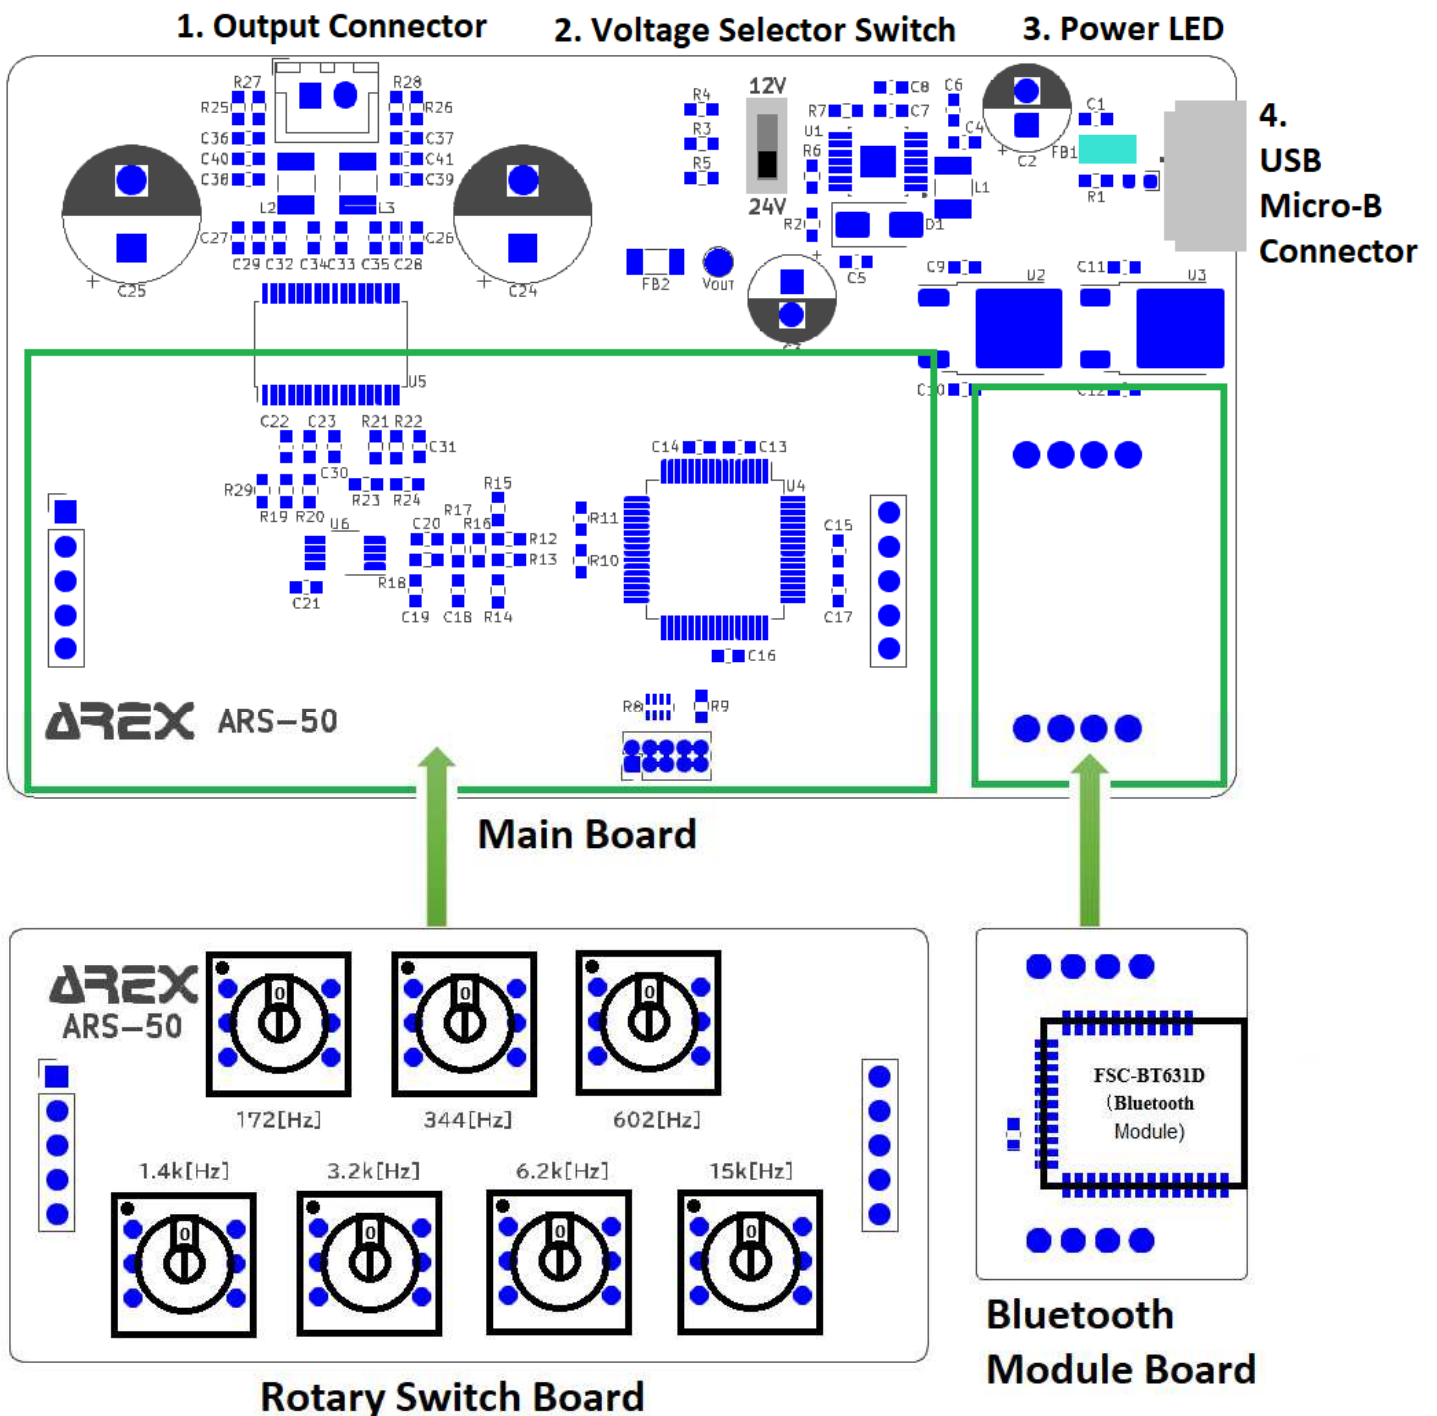

Figure1. PiezoListen evaluation board
The PiezoListen evaluation board consists of a stacked configuration of three circuit boards, as shown in Figure1.
- 1) Connect the USB Micro-B end of the power cable to the USB Micro-B connector located at the top right of the evaluation board (Figure 1–4), and plug the USB Type-A end into a PC or other power source.
- 2) Confirm that the power LED (Figure 1–3) is lit.
Use the voltage selector slide switch at the top of the evaluation board (Figure 1–2) to set the appropriate voltage: